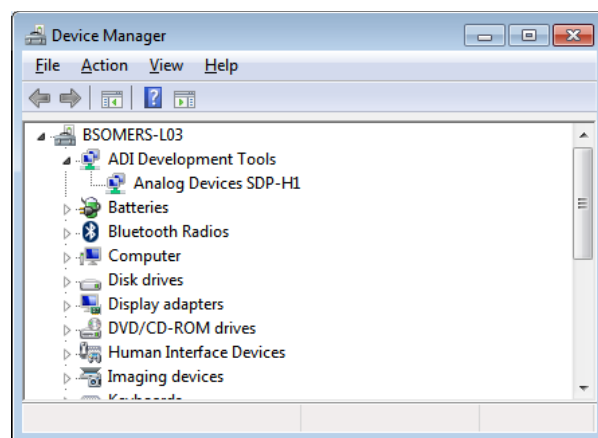

Figure 10. Device Manager Window
1. Navigate to the **Device Manager** window on the PC (see Figure 10).
3. The **Computer Management** window opens. In the list labeled **System Tools**, click **Device Manager**. If the SDP-H1 driver is installed, and both the SDP-H1 board and the EV-ADuM7704-8FMCZ are properly connected to the PC, **Analog Devices SDP-H1** is shown in the **ADI Development Tools** list in the **Device Manager** window, as shown in Figure 10.